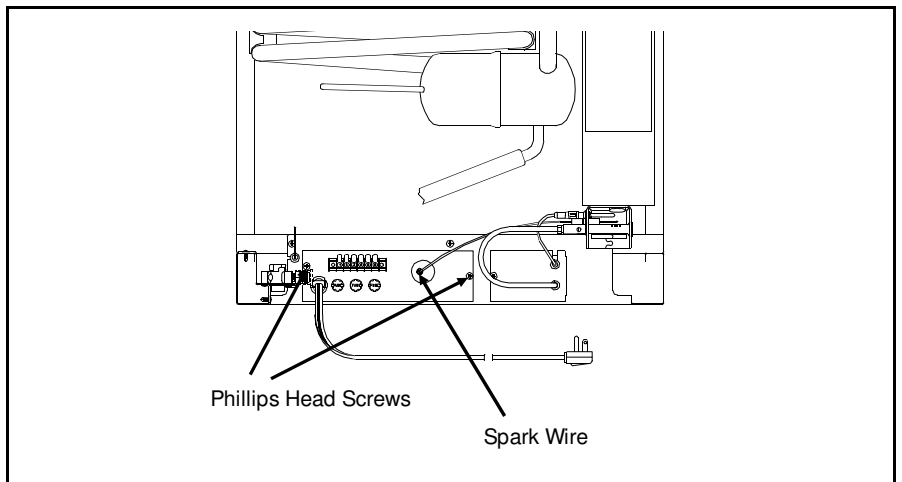

Figure 3.21 Relighter Access
6. Refer to Figure 3.21. Disconnect the spark wire. To gain access to the relighter, remove the 2 phillips head screws.